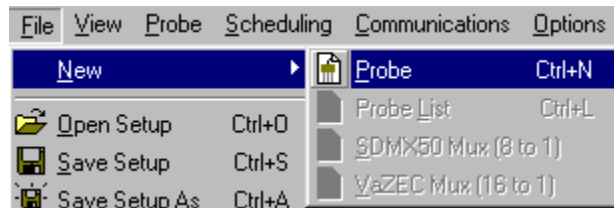

Figure 8. Mux Setup can be used to start *new* setups.
1. Begin by selecting **File | New | Probe**. (or click the  or Ctrl+N). This will spawn a probe information window. (See Figure 8). At first nothing will appear because the WinTDR is attempting to connect to the TDR. After a moment either a window will appear or a warning saying the TDR was not found. If the TDR was not found, follow the suggestions given in the warning to connect it correctly.